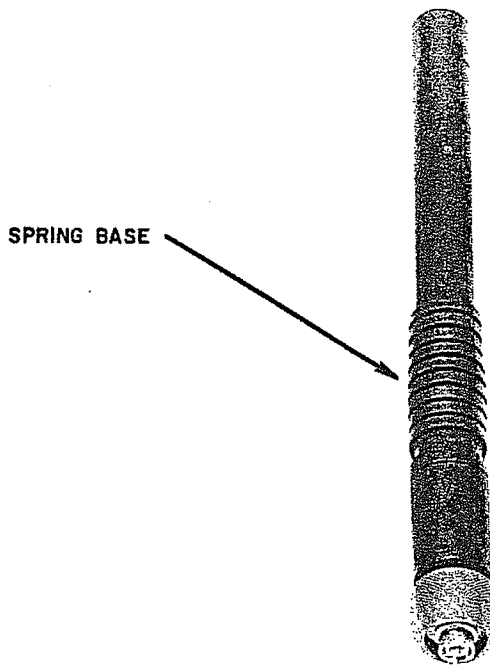

Figure 1-10. Antenna AT-6600T
e. Antenna AT-6600T (fig. 1-10)